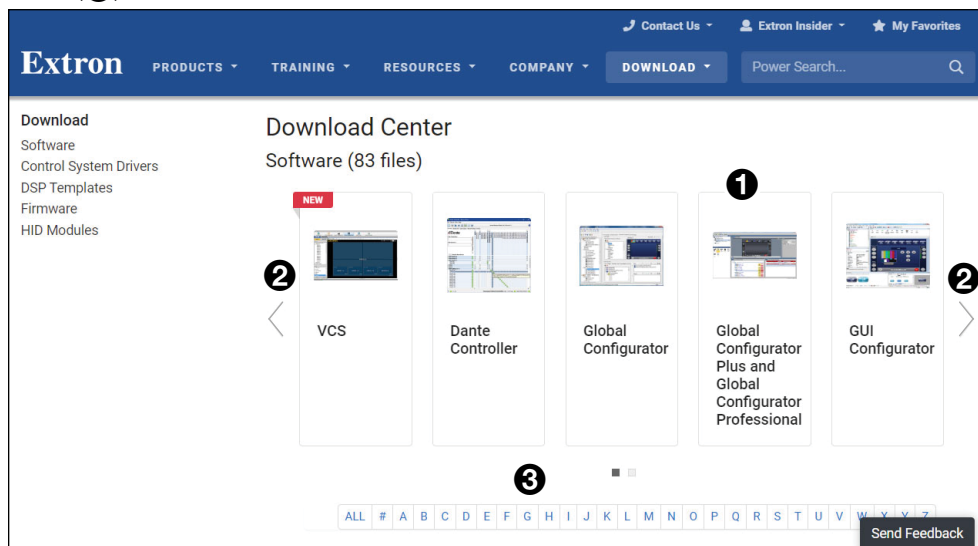

Figure 18. Software Download Center
3. You may see the product immediately, for example Global Configurator Plus and Professional (see figure 18, ①). Use the left and right arrows (②) to scroll through all the highlighted products. If the software is not shown, click the initial letter of the product in the alphabet menu (③).